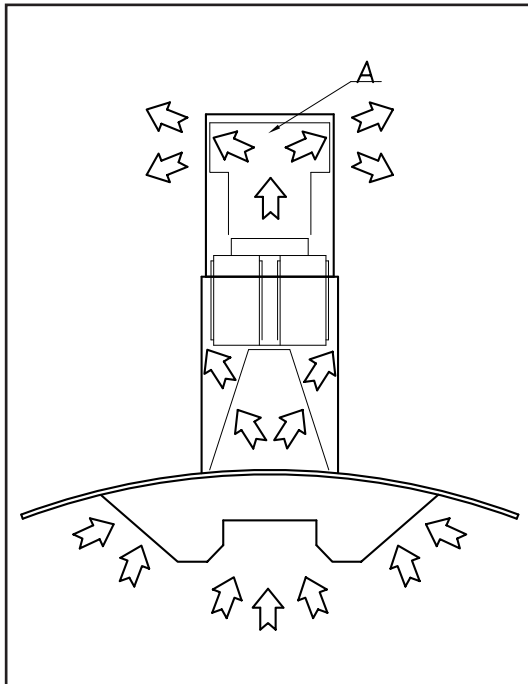

Fig.1
* In the filtering version (Fig. 1) the air and fumes conveyed by the appliance are purified by both a grease filter and an activated-carbon filter. They are subsequently circulated into the environment through the side grids of the chimney. In this version an air deflector (Fig. 1A) on the upper part of the pipe is needed to permit air recycling into the environment.